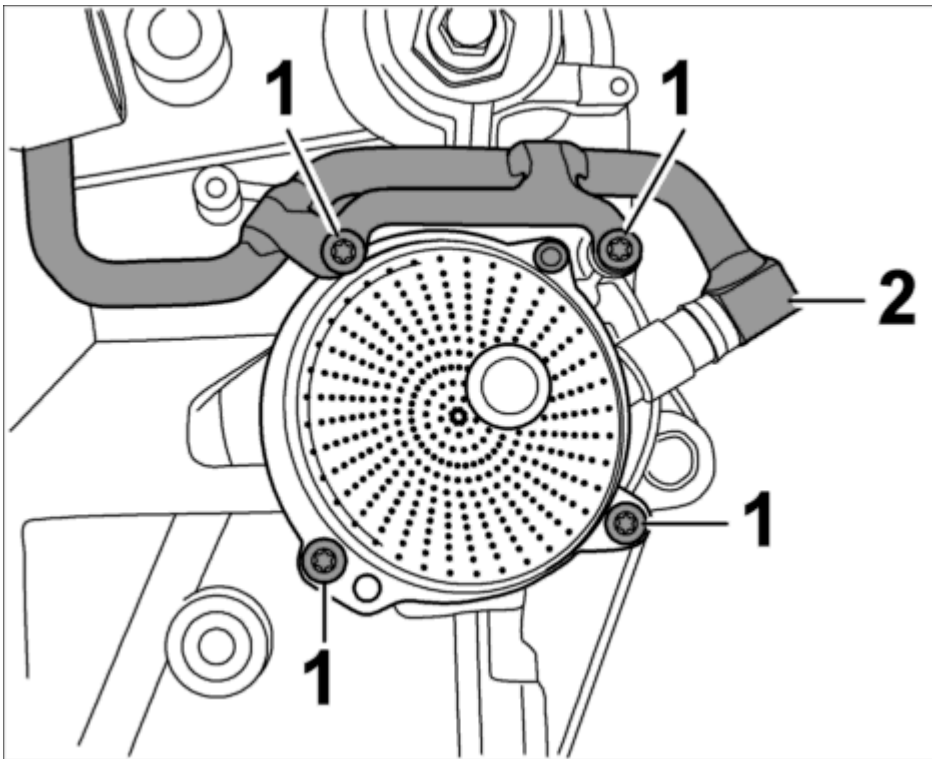

Fig. 203: Tandem pump side 4-6
- A tandem pump is installed on side 4-6 instead of the oil suction pump. Pull off the vacuum line on the pump - 2- . Replace O-rings and micro-self-locking screws -1- . See **Fig. 203**.